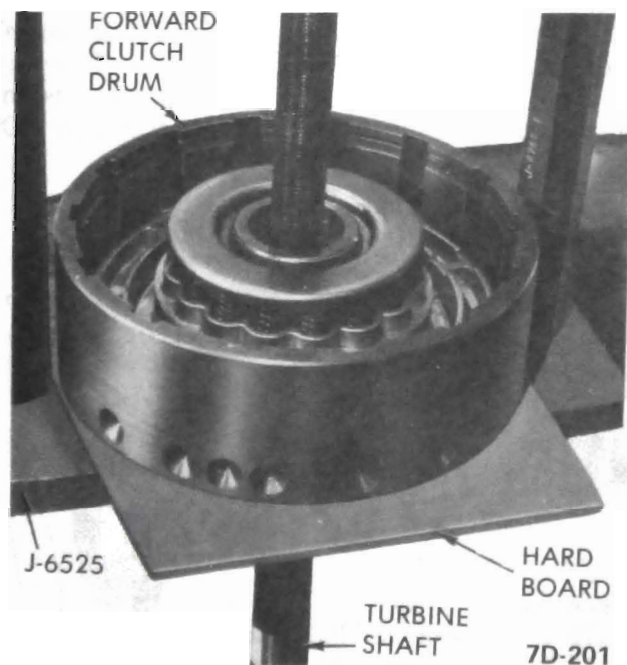

Figure 7D-132
6. Using J-2590 clutch spring compressor, compress the spring retainer and remove the snap ring. See Figure 7D-133.